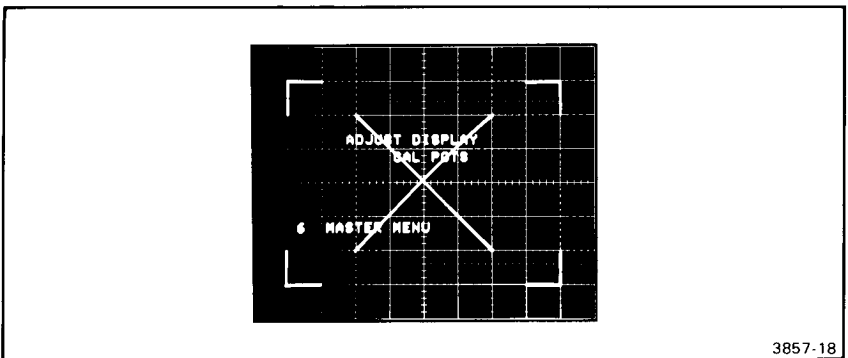

Figure 2-10. Adjust VECT LIN.
**Step 5** Adjust the VECT LIN (Vector Linearity) control to close the crossing pattern in the DISPLAY CAL test pattern as shown in Figure 2-10. This will optimize the vector display by compensating for the delay line length of the host mainframe.